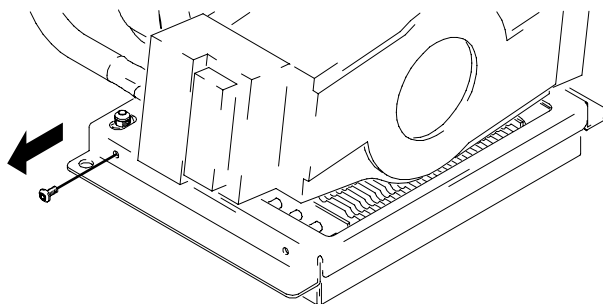

Fig. 18
**Note:** The cooler attaches to the Compressor Power Pack (Z) and the bulk head. To avoid damaging tubing, when servicing or accessing compressor, always follow steps 4 and 5 first.
5. Remove 4 set screws. Fig. 18.